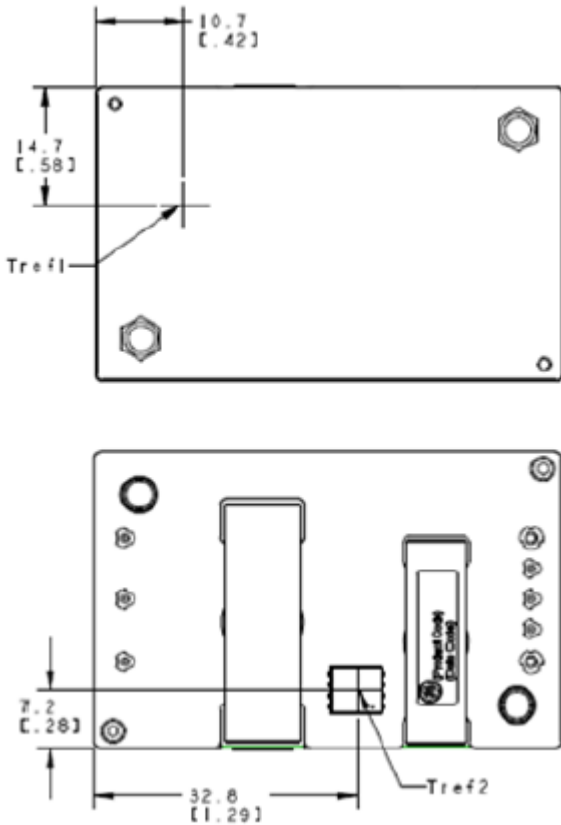

Figure 13. T_{ref} Temperature Measurement Location for cold wall applications version.
To provide protection under certain fault conditions, the unit is equipped with a thermal shutdown circuit. The unit will shutdown if the thermal reference point T_{ref} (Figure 13), exceeds 115°C (typical), but the thermal shutdown is not intended as a guarantee that the unit will survive temperatures beyond its rating. The module will automatically restart upon cool-down to a safe temperature.
The thermal reference points, T_{ref1} , and T_{ref2} used in the specifications is shown in Figure 13. For reliable operation these temperatures should not exceed 100°C & 125°C respectively.